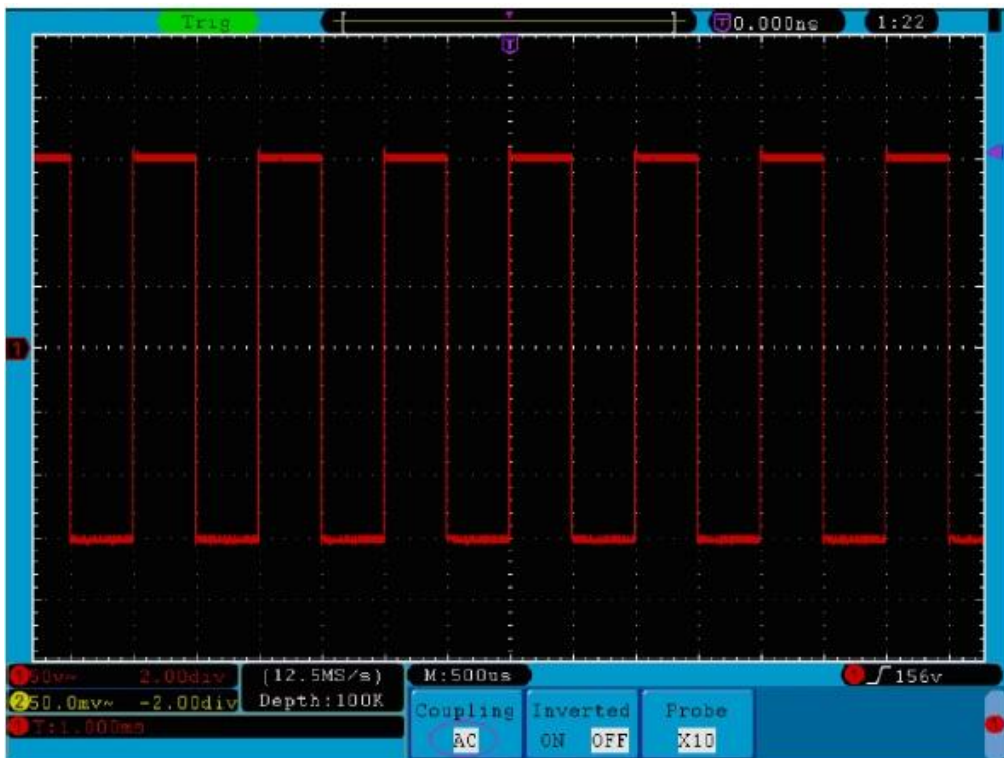

Fig. 14 AC Coupling Oscillogram
- * Then, press **F2** button to select the Coupling item as “AC”. By setting the channel coupling as AC mode, the direct current component of the signal will be blocked. The waveforms are shown as **Fig. 14**.